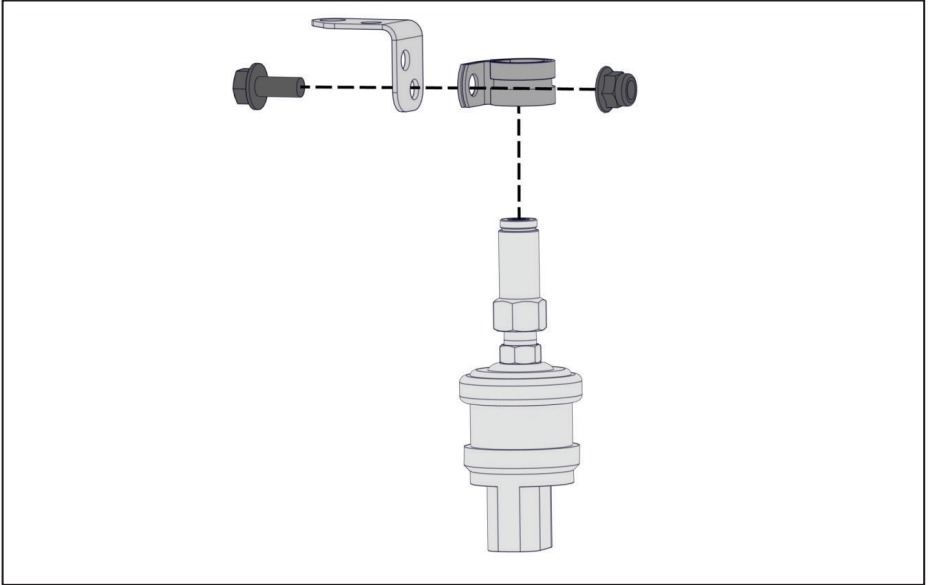

Figure 15 — Mount compressor
- Slide the pressure sensor assembly into the P-clip and mount it to the bracket using the supplied M6 x 1. x 14 mm bolt, and M6 nut (Figure 15).